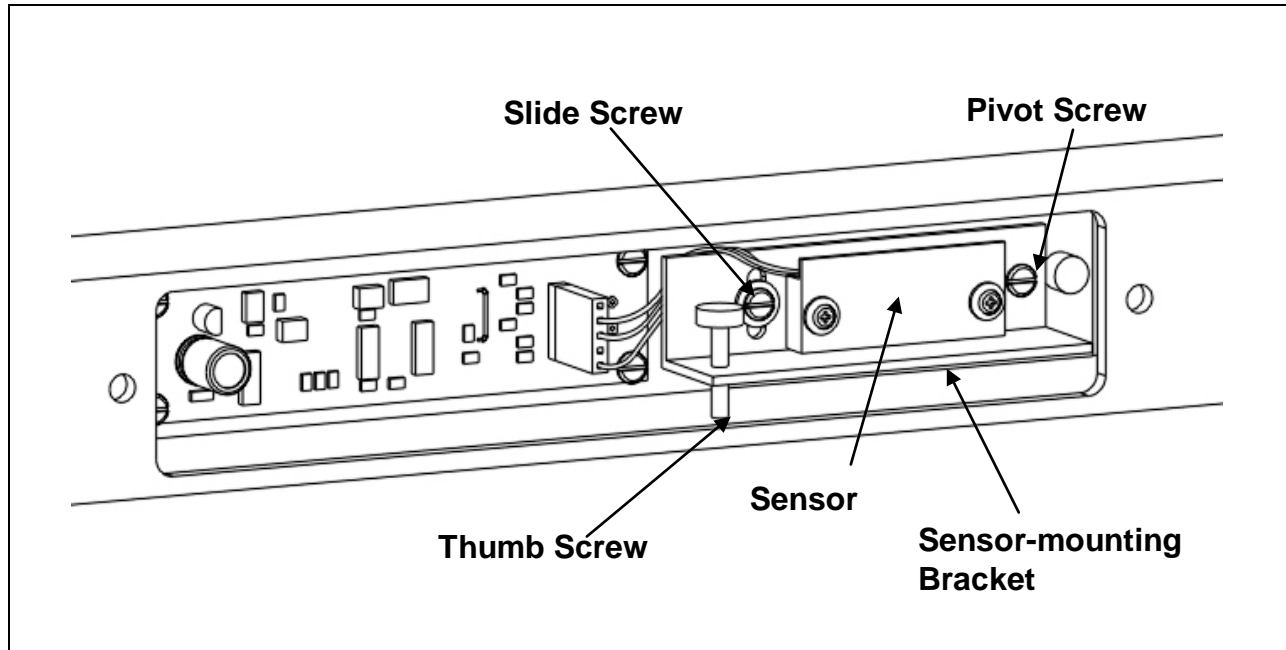
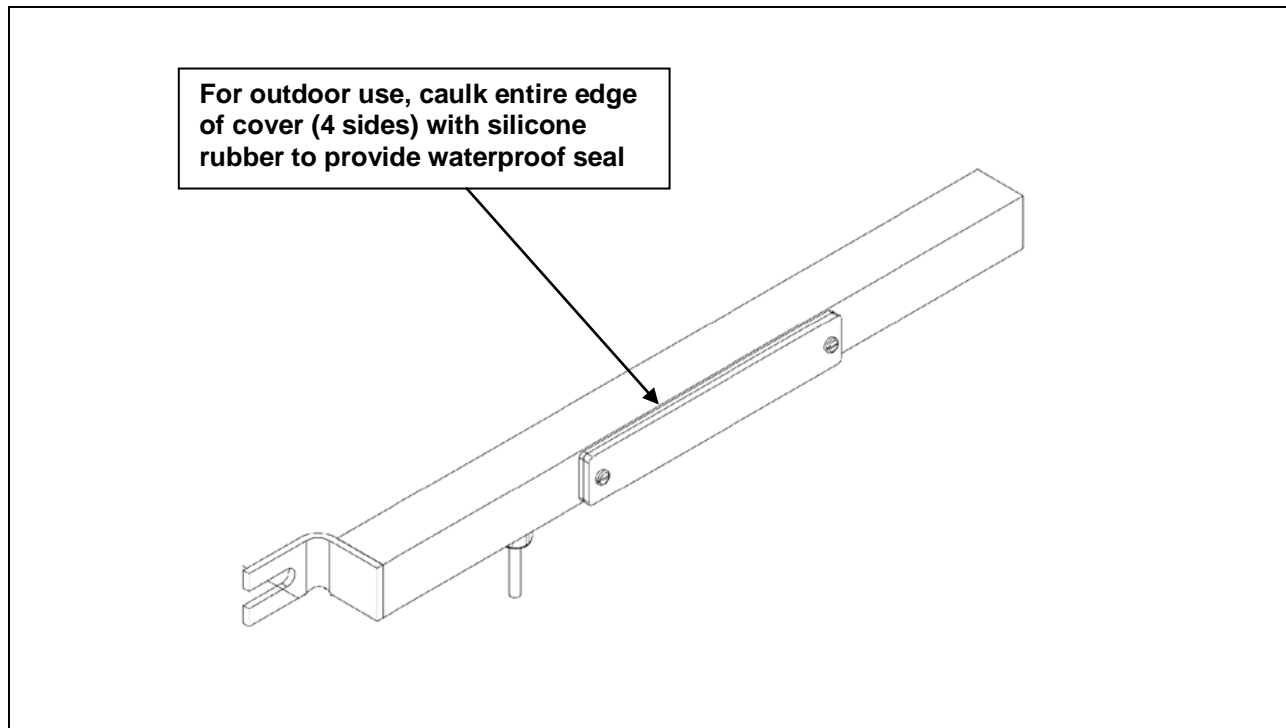

Figure 2 – Sensor leveling parts
Figure 3 – Caulking of cover for outdoor operation
With the cover off the front of your horizontal **BEAMER**, adjust (level) the internal tilt sensor so that the output of the **BEAMER** is as close to zero (0) Volts as possible. The sensor has its best linearity and lowest temperature coefficient when the **BEAMER** output is 0 Volts. Follow the procedure below while referring to Figure 2:
2. While reading the **BEAMER** output with a voltmeter (see below), turn the thumb screw to adjust the angle of the sensor-mounting bracket. Keep adjusting until the output is as close to zero (0) Volts as possible.
3. Tighten the slide screw and the pivot screw, while keeping the output at approximately zero (0) Volts.
4. Replace the cover and tighten down the cover screws. If your horizontal **BEAMER** will be used outdoors, seal the edges of the cover with silicone rubber caulking compound (Figure 3).